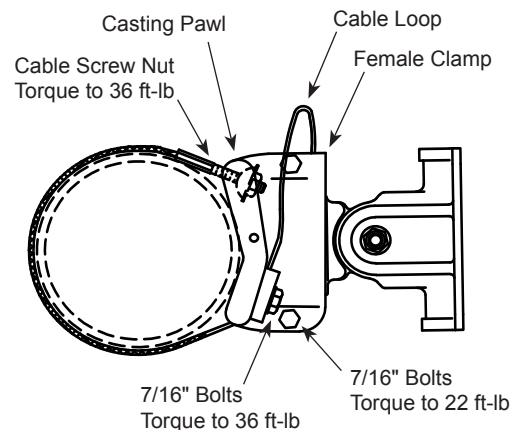

Figure 2
4. Place the cable screw assemblies in the casting pawls of the female clamp as shown. (Figure 2)
6. Torque the four (4) 7/16" bolts on the cable plates to 36 ft-lb. DO NOT OVERTIGHTEN.
8. Plumb and level the clamp kit as needed on the mast arm and torque the left cable screw assembly nut to 36 ft-lb. (Figure 2)
9. Torque the two (2) 7/16" hex bolts on the female half of the clamp kit to 22 ft-lb of torque. DO NOT OVERTIGHTEN.
10. Torque the right cable screw assembly nut to 36 ft-lb. (Figure 2). DO NOT OVERTIGHTEN.